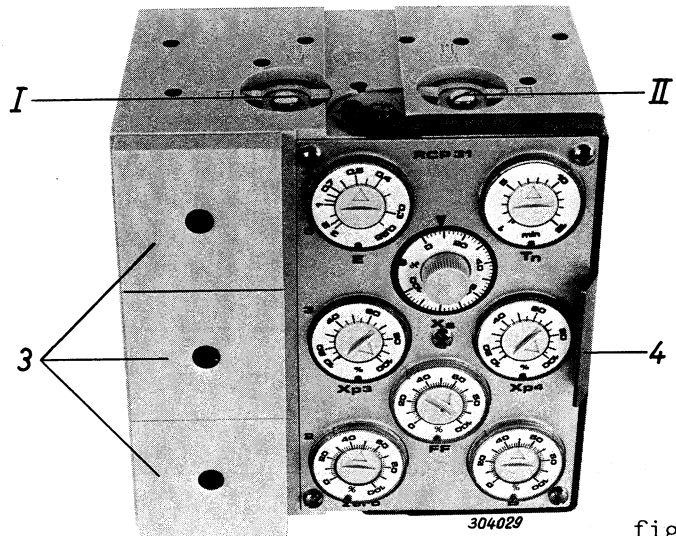

fig. 2
- The control action can be set by turning the pointers on the top of the insert (see fig. 2, I and II).